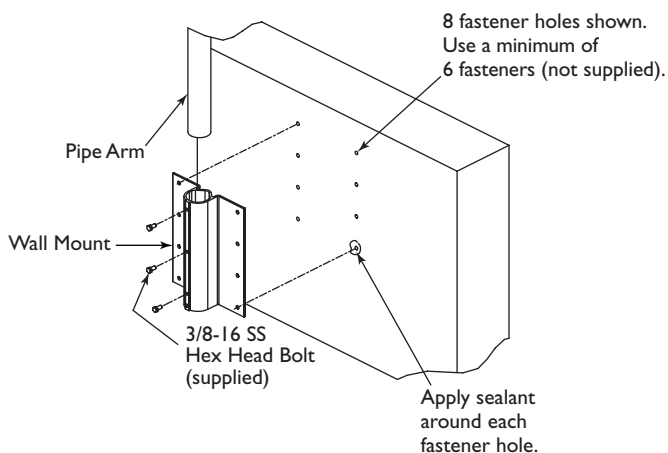

Figure 2 Installation of Wall Mount to a Wall
- b. Using the wall mounting bracket as a template, position it in the desired location and mark the hole locations on the wall (see FIGURE 2). Use a minimum of six (6) fasteners (not supplied): three (3) fasteners for each side of the mounting bracket.
- d. Apply a good quality sealant around each hole, anchor or stud at the mounting surface (see FIGURE 2).
- j. Rotate the pipe arm to swing the AutoDome out from the roof and into the desired position. Tighten the three (3) 10 mm (3/8-inch) stainless steel hex bolts (provided; see FIGURE 2) to secure the pipe arm into position.